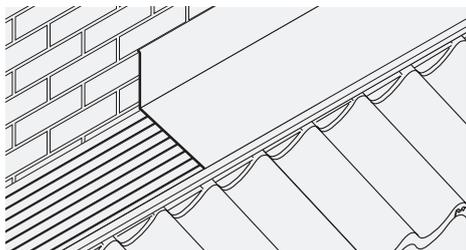

Fig. 5 – Dress lead onto lead support strips
- 5 Dress Code 4 lead or similar flashing material, over lead support strip and fit front edge into integrated retaining channel on front edge support (Fig. 5, page 212).